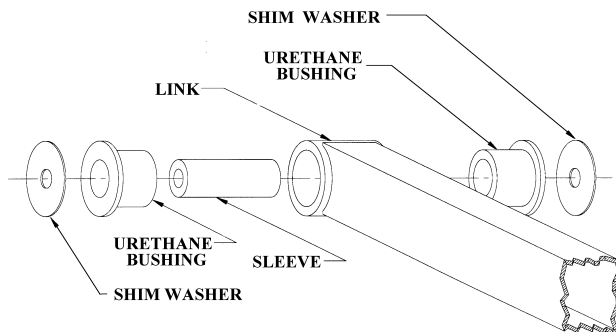

fig. 4
9. Insert two urethane bushings from bag # 860047 in each end of each # 140162 lower link. Next, press one # 420019 sleeve from bag # 860047 through the bushings on each end of the # 140162 lower links. A liberal amount of anti-seize compound will aid in the assembly and will prevent squeaking of the bushings. **Refer to fig. 4**
12. Insert two urethane bushings from bag # 860048 in each end of each # 140163 upper link. Next, press one # 420020 sleeve from bag # 860048 through the bushings on each end of the # 140163 upper links. A liberal amount of anti-seize compound will aid in the assembly and will prevent squeaking of the bushings. **Refer to fig. 4**
13. Install the # 140163 upper link in place of the original upper link with one shim washer from bag # 860048 on each side of the bushings at both ends. Slight prying of the mounts with a screwdriver and/or rotating the lower link cam adjusters may aid the installation. **Refer to fig. 4**